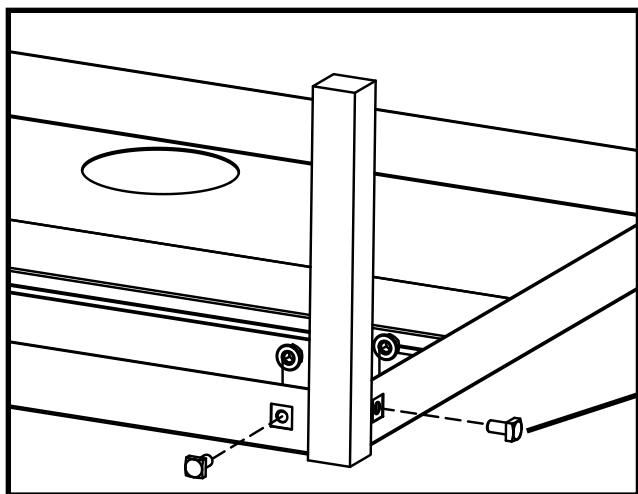

**FIGURE 3**
Lay the top shelf down and install the upper legs in each corner as shown in **FIGURE 3**. Slide the right and left slide brackets between the legs as shown in **FIGURE 4**. The slides face inward and the 2 holes face the back edge. Then **LOOSELY** attach legs and brackets to top shelf using bolt (AA) and nuts (BB) as shown in **FIGURE 5**.